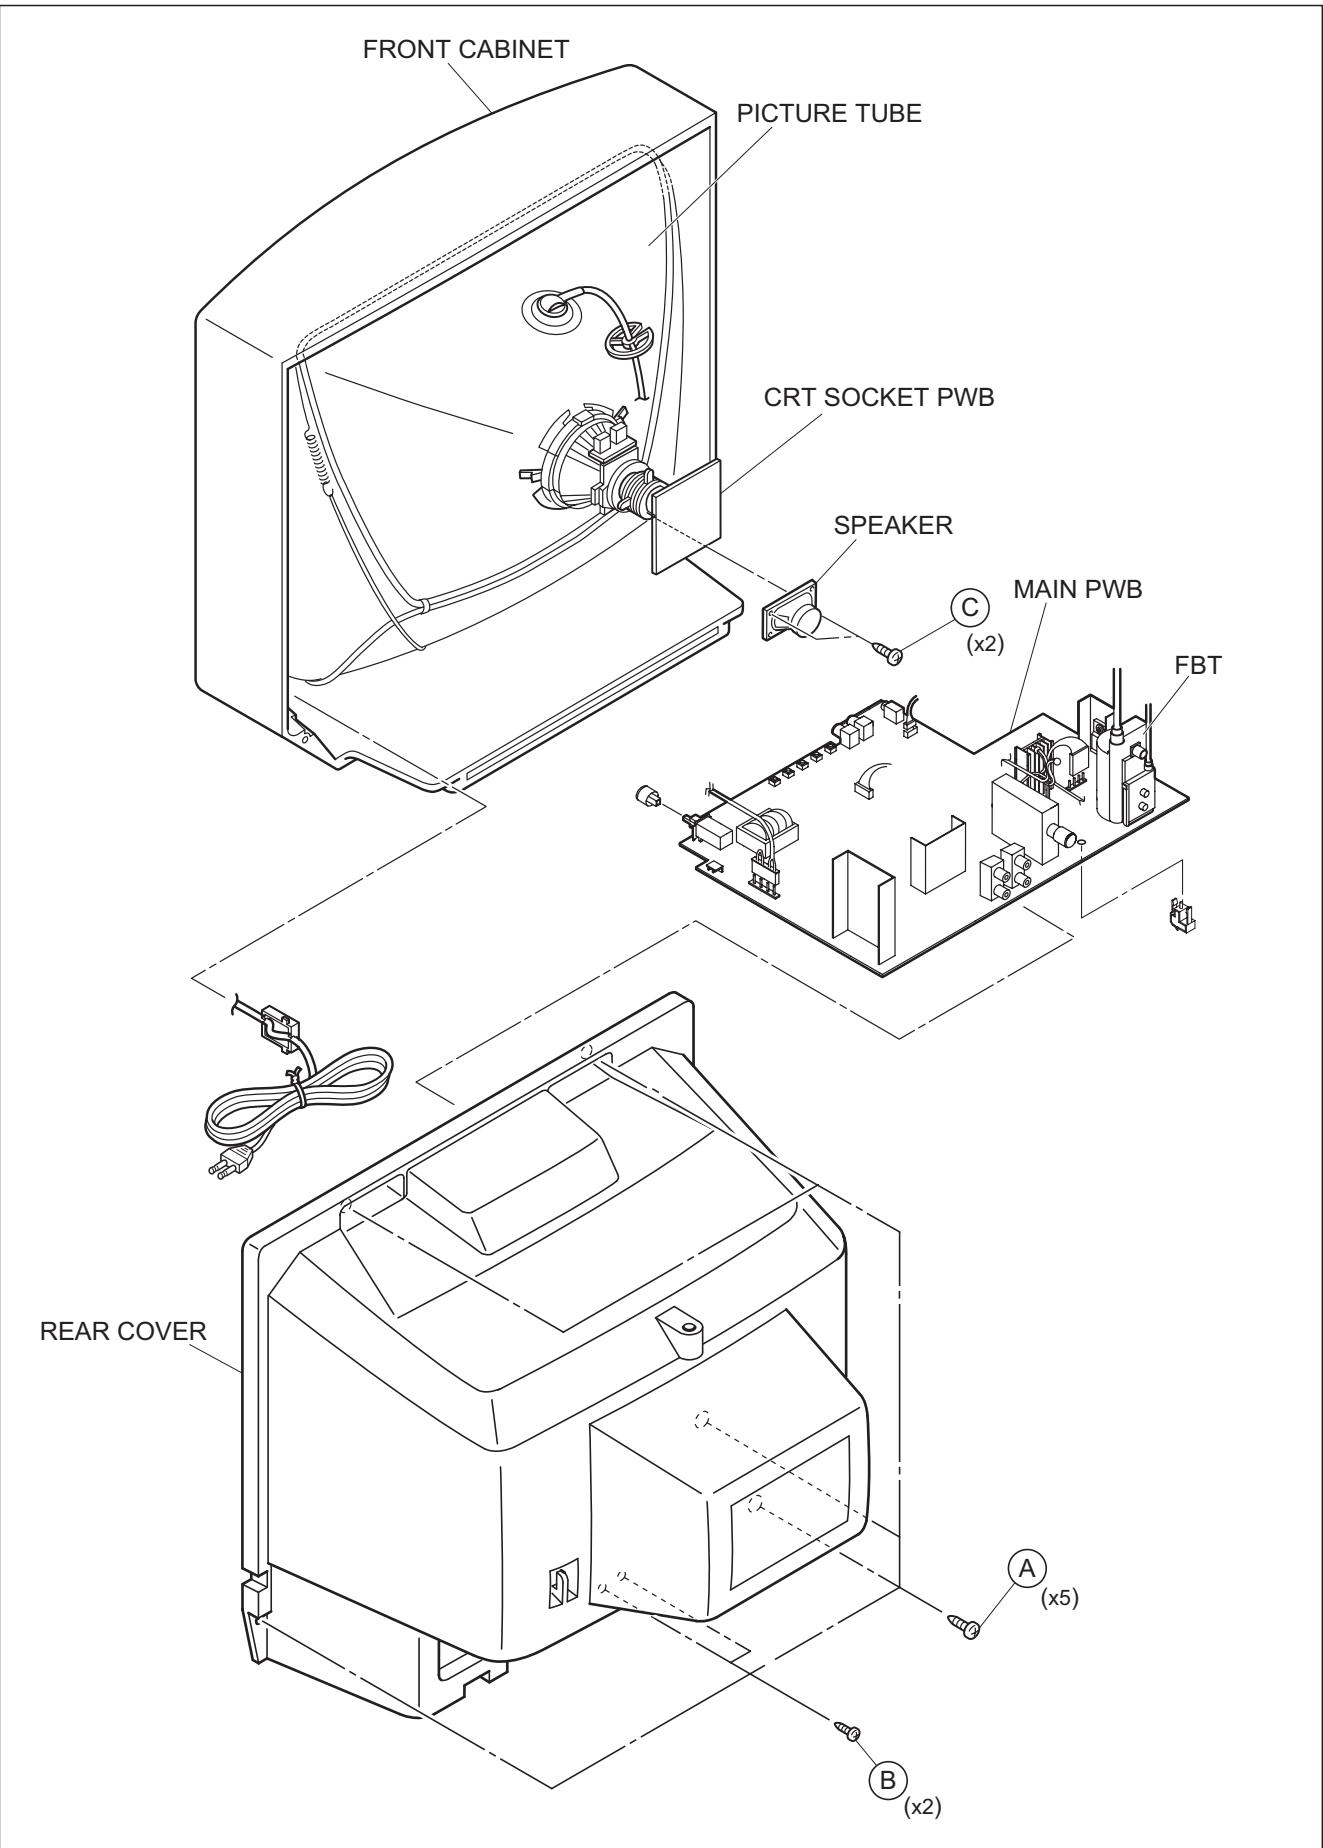

Fig.1
- (1) Remove the 2 screws **[C]** as shown in Fig.1.